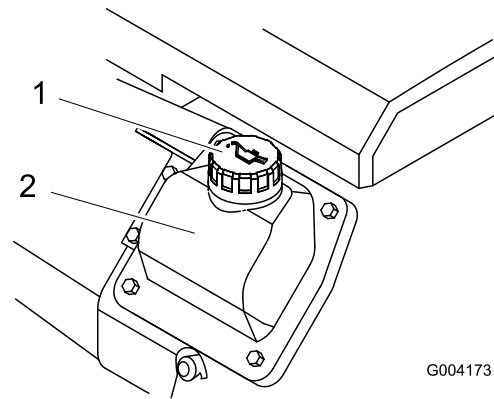

Figure 16
8. If the oil level is low, clean around the oil-filler cap and remove the cap (Figure 16).